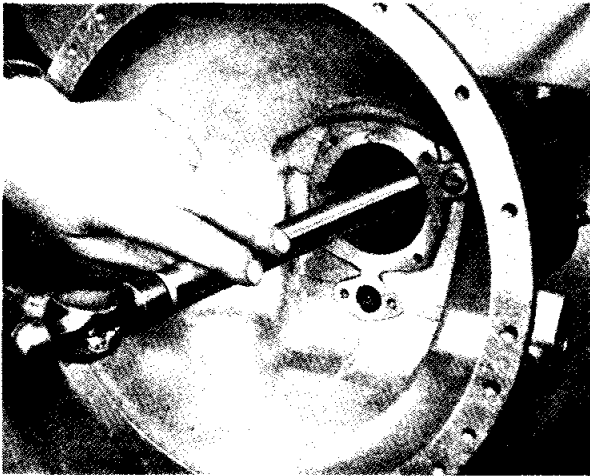

Fig. 11 Driving Mainshaft to rear with Tool No. 20SM1 to free Centre Main Bearing.
- (l) Tap the mainshaft towards the rear with a soft metal drift, as shown in Fig. 11, sufficiently to clear the bearing